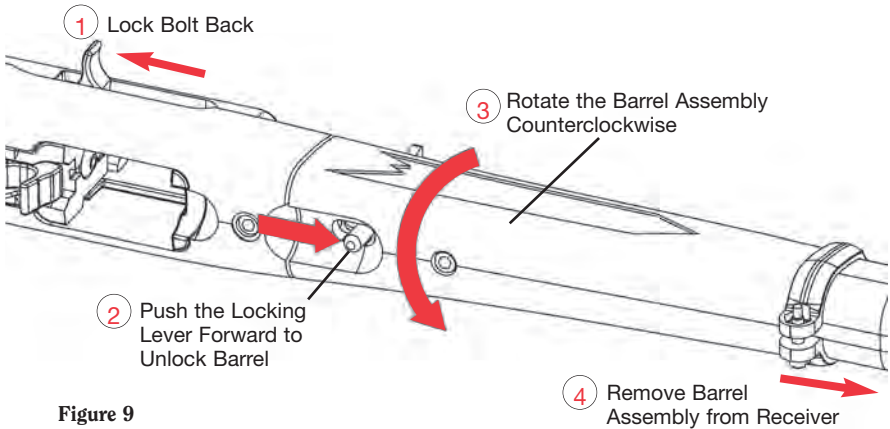

Figure 9
5. To remove the barrel assembly, ① lock the bolt back and ② push the locking lever towards the muzzle. Next, ③ rotate the barrel assembly **counterclockwise** and ④ pull the barrel assembly out of the receiver. (See Figure 9.)